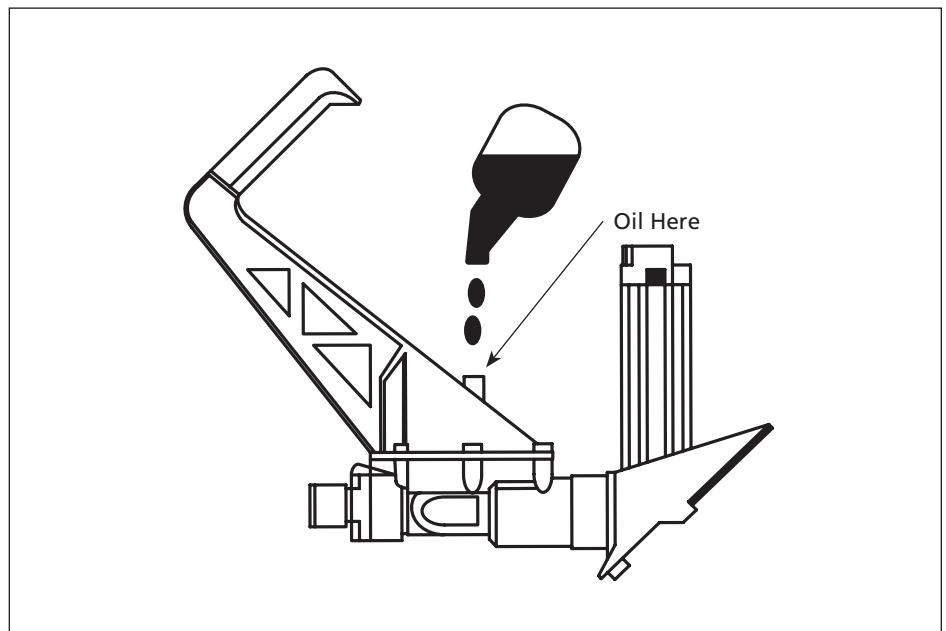

Figure 12 - Tip nailer to add oil
2. Turn the nailer so the air inlet is facing up. Place 4-5 drops of 30 W non-detergent oil into air inlet (see Figure 12). Do NOT use detergent oils, oil additives, or air tool oils which contain solvents. This will damage the nailer's internal components.